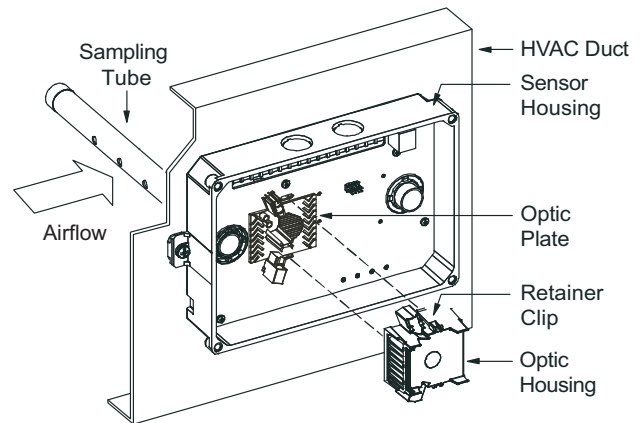

Fig. 59 — Sensor Cleaning Diagram
1. Disconnect power from the duct detector then remove the sensor's cover. See Fig. 59.